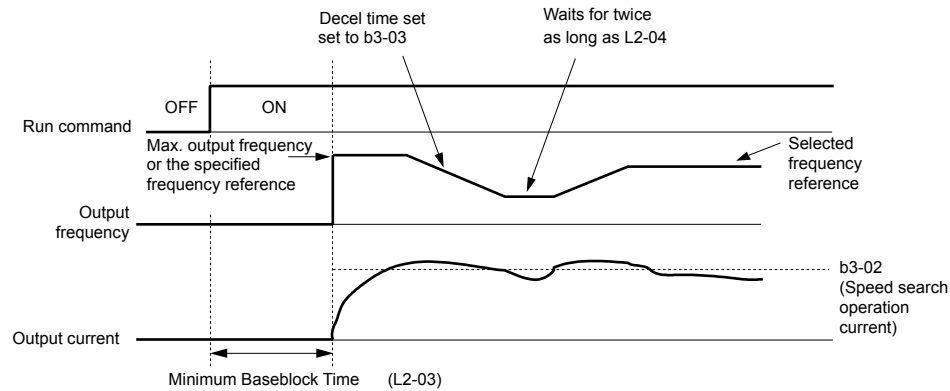

**Figure 5.19 Current Detection Speed Search after Power Loss**
*Figure 5.19* illustrates Current Detection Speed Search operation after a momentary power loss (L2-01 must be set to 1 or 2):